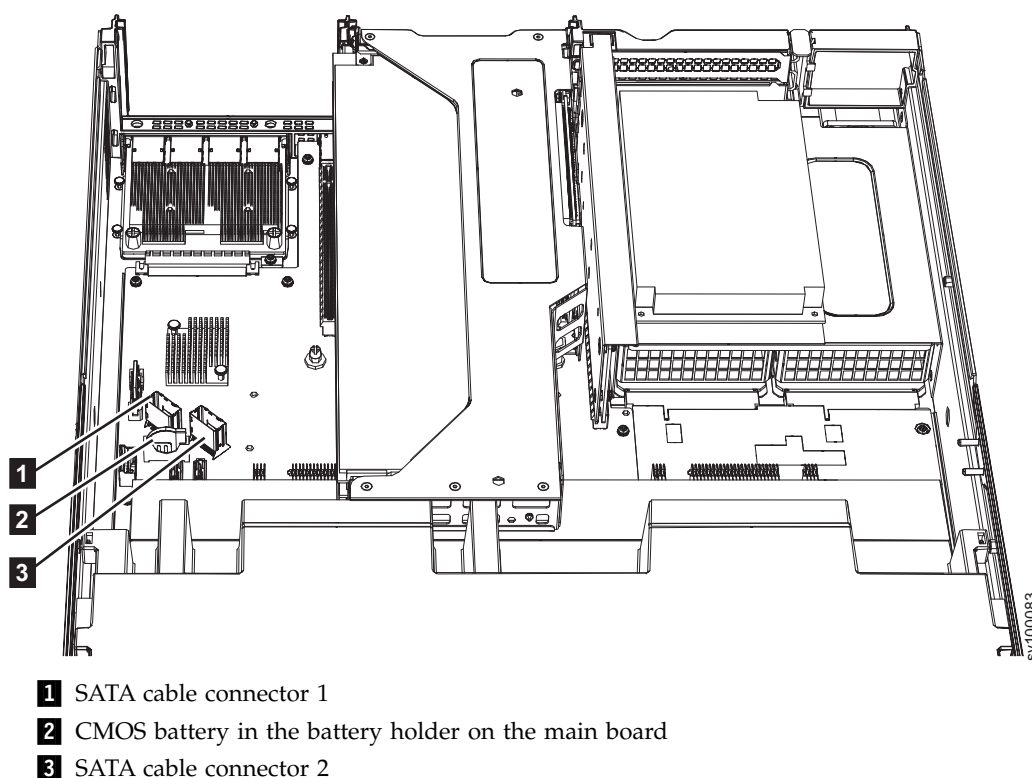

Figure 131. Location of the 2145-SV1 CMOS battery holder
2. Locate the battery on the main board (**2**), as shown in Figure 131.
4. Reconnect the SATA cables to the appropriate SATA cable connectors on the main board, **1** and **3**, as shown in Figure 131 on page 155.